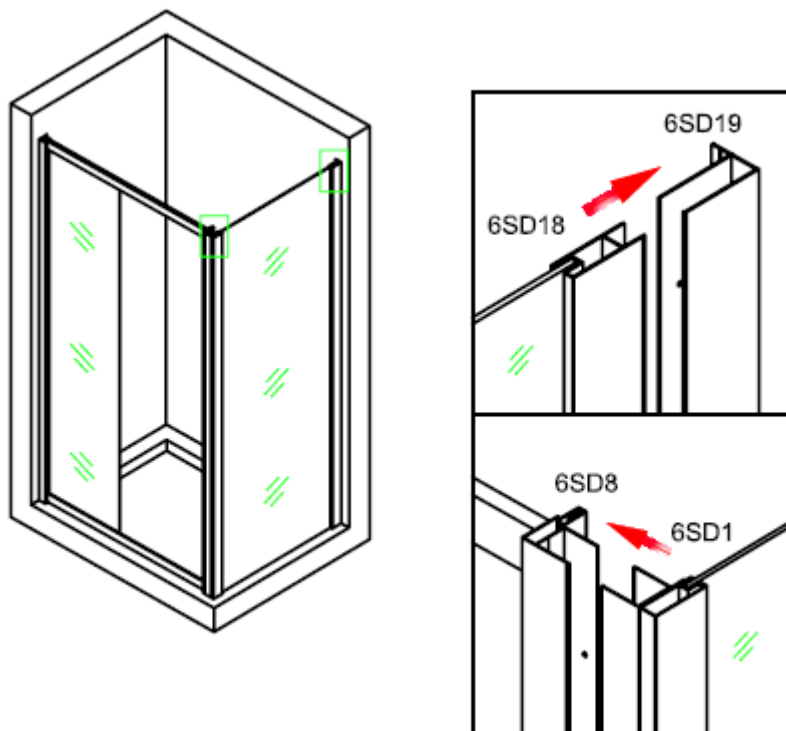

Figure 7
7. Adjust the wall profile with the fixed profile,as showed in figure 7.